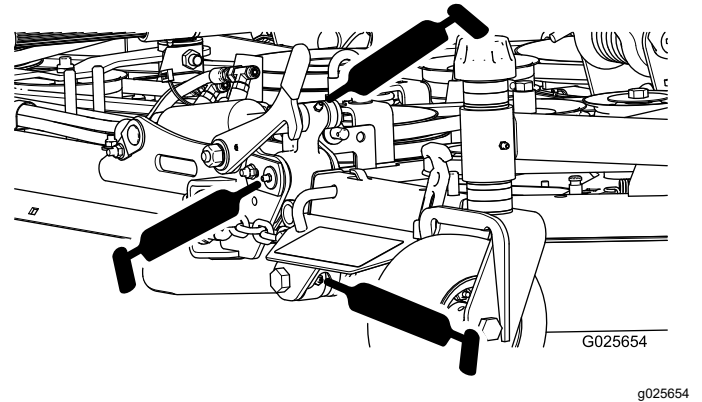

Figure 14
- Wing deck hinges (10) (Figure 14)